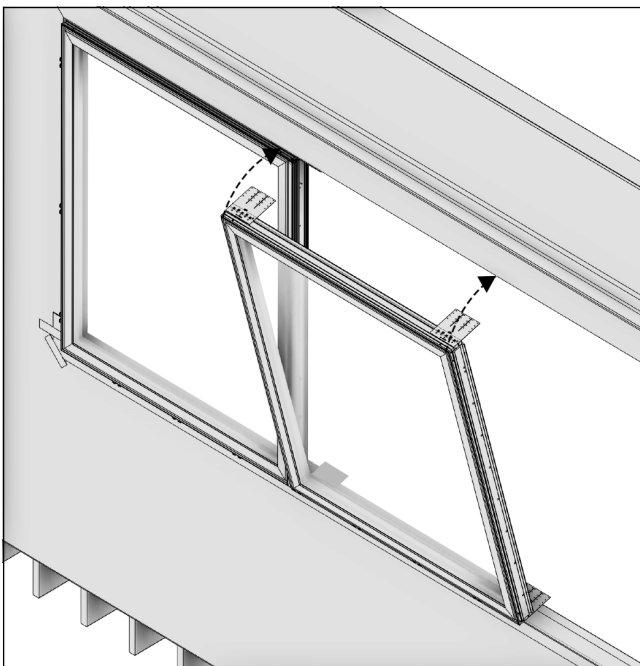
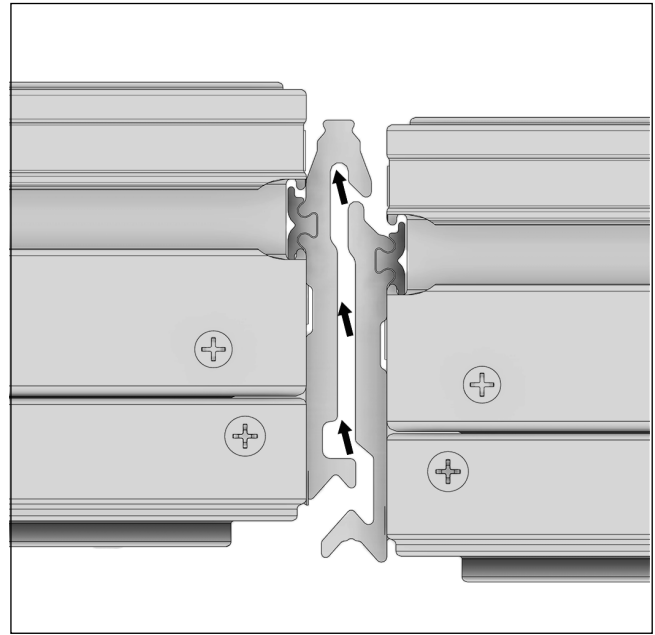

Figure 74 Tip in second assembly
Figure 75 Lock assemblies together
12. In this multi-wide x one-high example and working left to right (as viewed from the exterior), tip the second unit into place while verifying that the MRF components slide together and interlock. See Figure 74 and Figure 75.